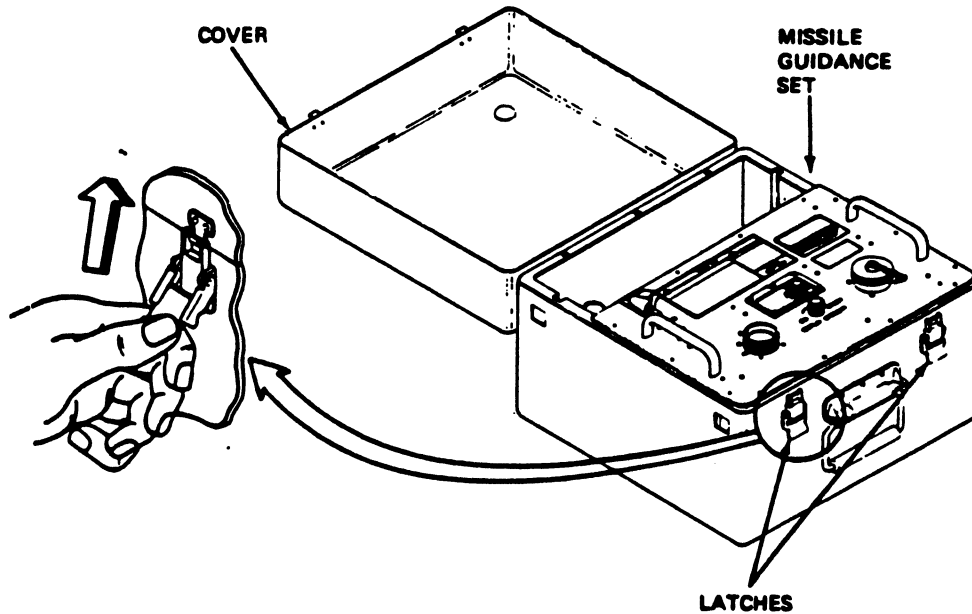

Fig 2-18. Removing cover from missile guidance set (MGS).
Step 1. Open the cover by unlatching the two latches at the front of the MGS (fig 2-18). Remove the cover and place it out of the way of personnel.